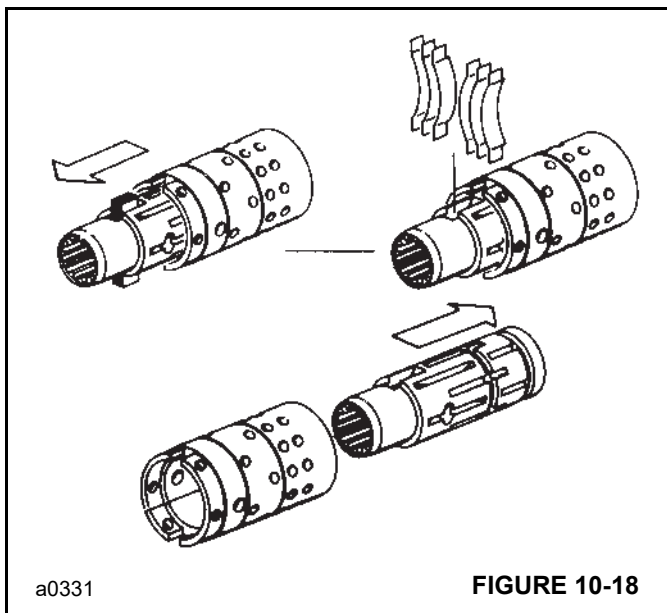

FIGURE 10-18
12. Push spool 12 partially from control end of sleeve 9. Remove six centering springs 10 from the spool carefully by hand (Figure 10-18).
13. Push spool 12 back through and out of sleeve 9. Rotate spool slowly when removing from the sleeve (Figure 10-18).